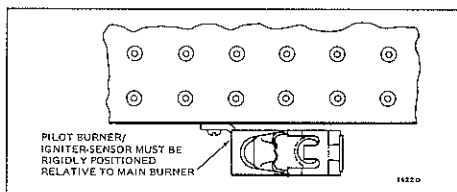

Fig. 1—Mount pilot burner/igniter-sensor on main burner.
2. Mount pilot burner/igniter-sensor on main burner. Mounting surfaces other than the main burner may shift, bend, or warp as furnace expands and contracts while operating. Refer to Fig. 1.